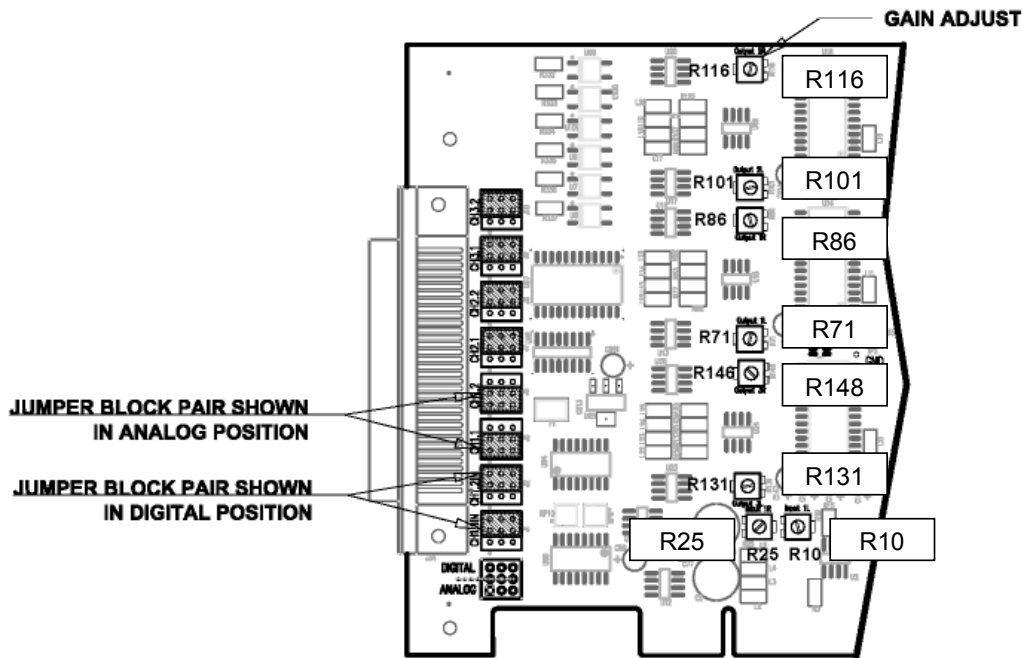

Figure 49 - Audio Board Trimpot Location
4. Configure the jumpers according to the ANALOG setting. See Figure 49
Refer to Figure 49 for the location of trim pots and jumper blocks referred to in the calibration procedures. Table 4 Indicates mapping to audio channels.